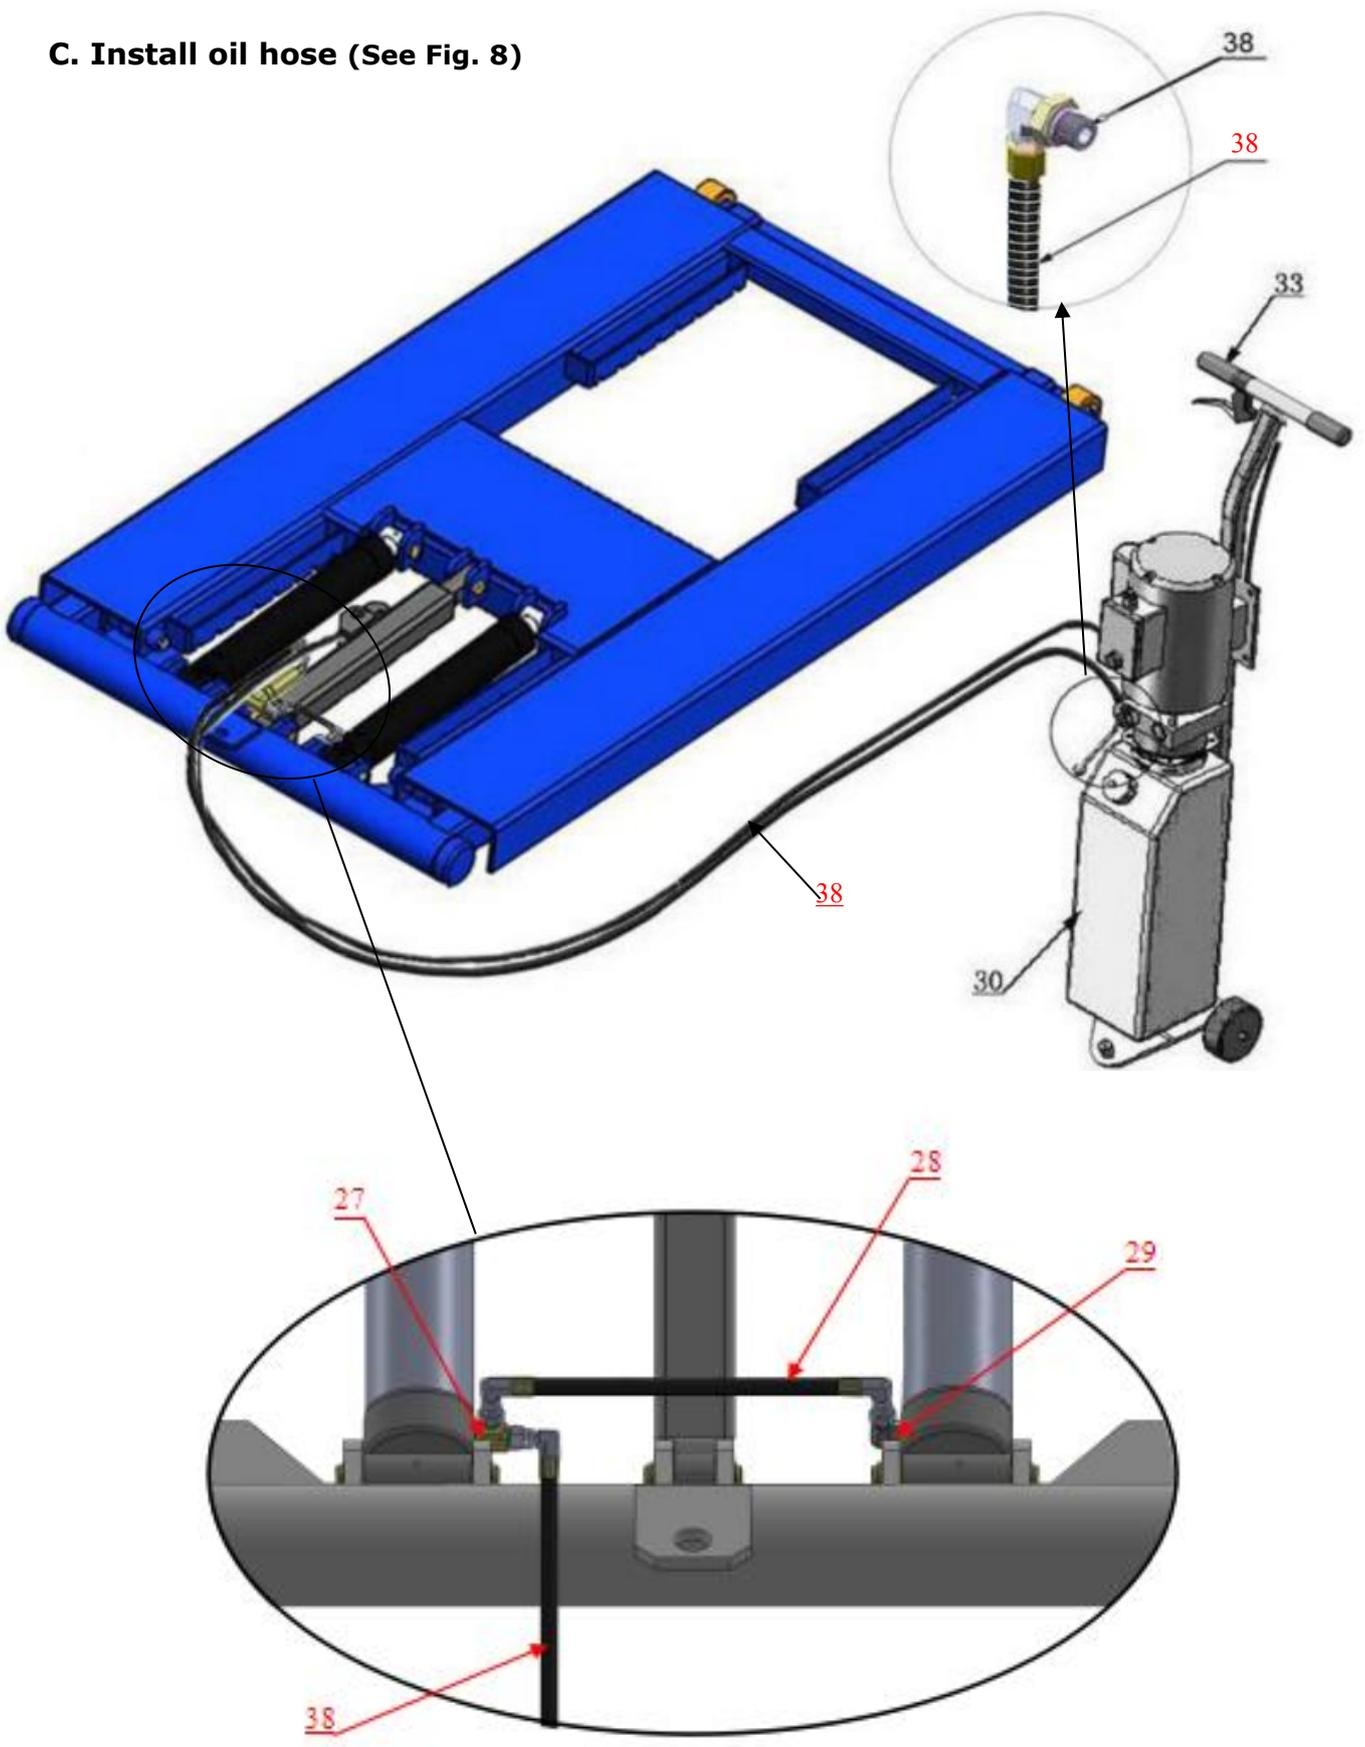

Fig. 8
C. Install oil hose (See Fig. 8)